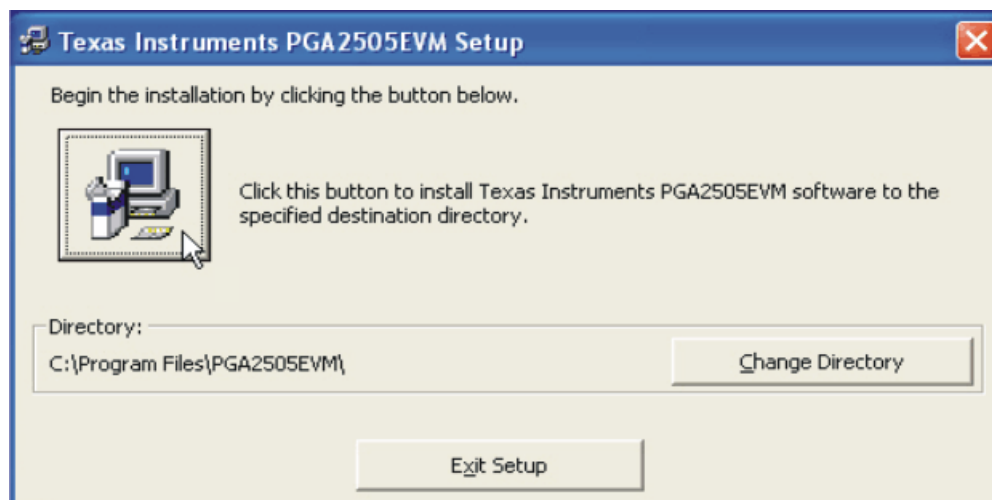

Figure 8. PGA2505EVM Software Installation Directory Screen
Step 3. The PGA2505EVM install software will prompt you for an installation directory; click on the computer system button to continue, as shown in Figure 8, or the Change Directory button to change the installation directory.